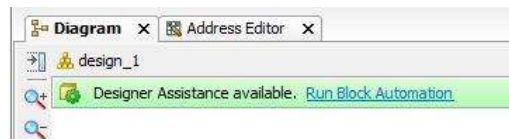

Figure 9 Run block automation
1. Click Run Automation, displayed in Figure 9.